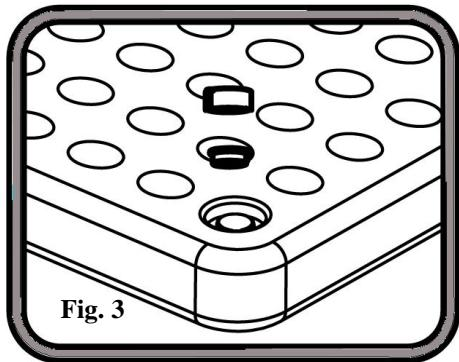

Fig. 3
3. Unscrew the cover and take out the rubber plug. See **Fig. 3**